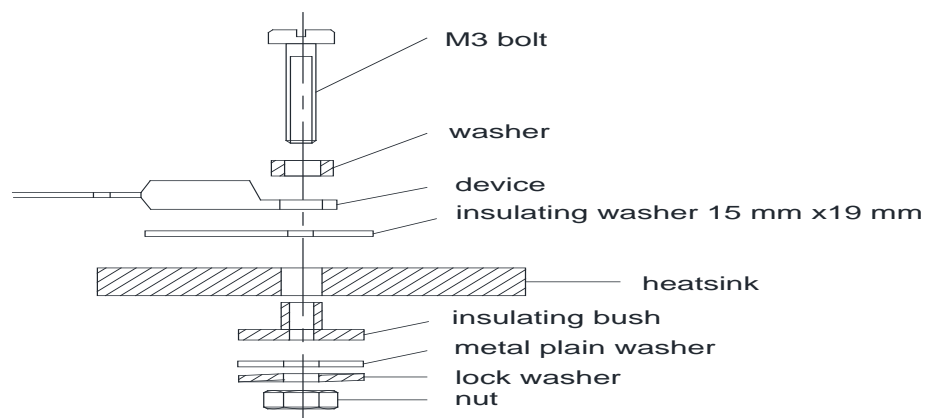
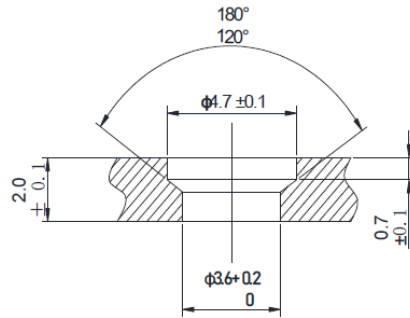
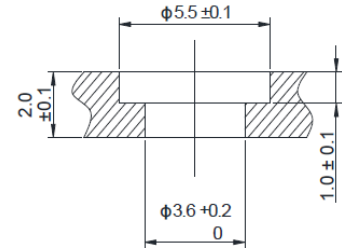

Fig. 9 Insulated screw mounting with washer
Fig. 10 Heatsink requirements for 500V insulation
Fig. 11 Heatsink requirements for 800V insulation
- Through heatsink with nut, as shown in Figure 9. Corresponding heatsink requirements for 500V insulation are shown in Figure 10; Corresponding heatsink requirements for 800V insulation are shown in Figure 11.